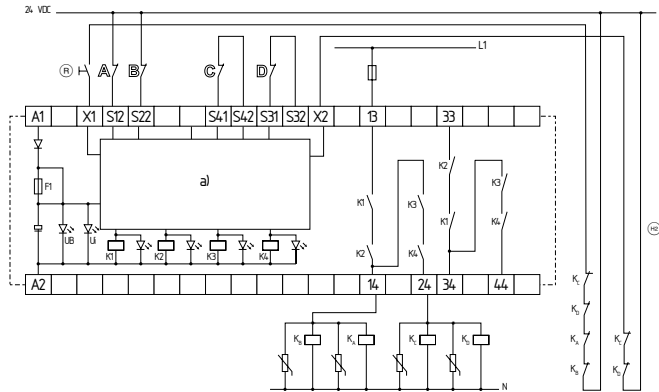

Fig. 2: SRB 400CS, 400CS/T
**Dual-channel control, shown for an emergency stop circuit; with two contacts A and B and a guard door monitor with two contacts C and D, where at least one is a positive break contact; with external reset button  $\text{\textcircled{R}}$  (related on the switch-off level 1) (see Fig. 2)**